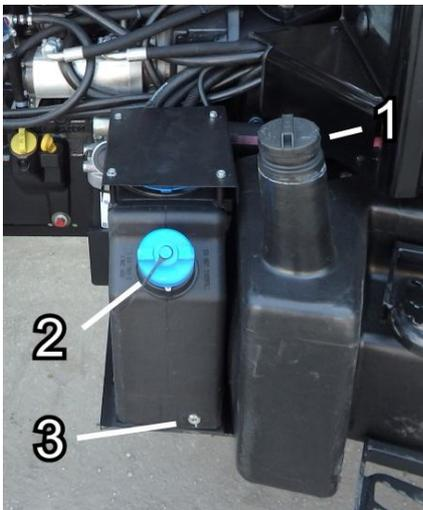

Fig. 4.3.2. Tank fillers.
AdBlue/DEF tank filling (Fig. 4.3.2)
1. Open the AdBlue/DEF tank cap (2 - Fig. 4.3.2)